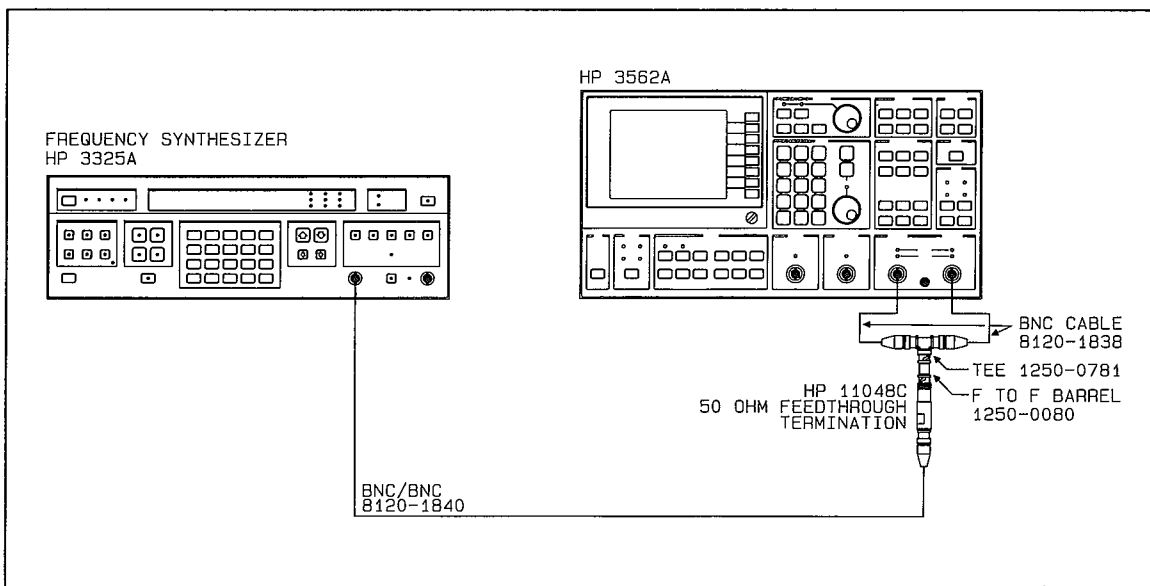

Figure 2-17 Input Coupling Insertion Loss Test Setup
A. Connect the test equipment as shown in figure 2-17. Refer to "Initial Equipment Setup," paragraph 2-20, for unspecified parameters.